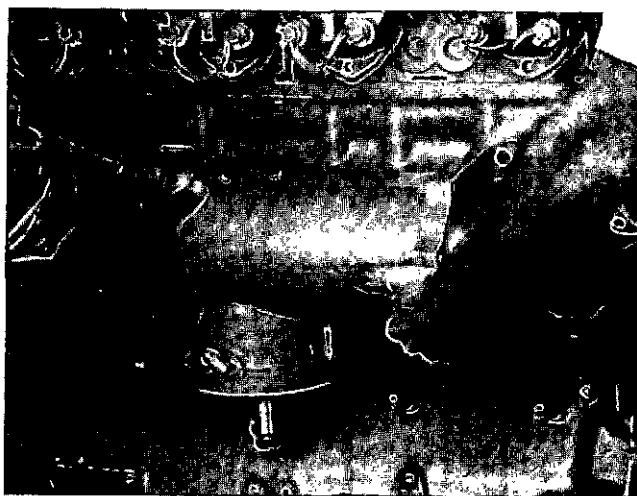

Fig. 0-15. Remove The Oil Cooler Housing.
6. Remove the capscrews, lockwashers and flatwashers that hold the support for the oil cooler to the cylinder block. Install a dowel into one of the capscrew holes to hold the support until all the capscrews are removed. Remove the oil cooler, Fig. 0-15. Remove the dowel.